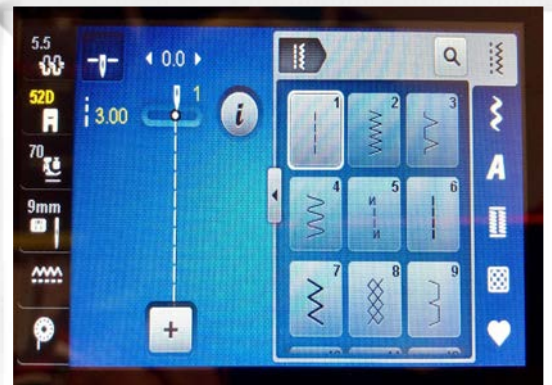

Fig 6
- Select straight Stitch, length 3 and Needle Position to +1 (one position to the right) See Fig 6.